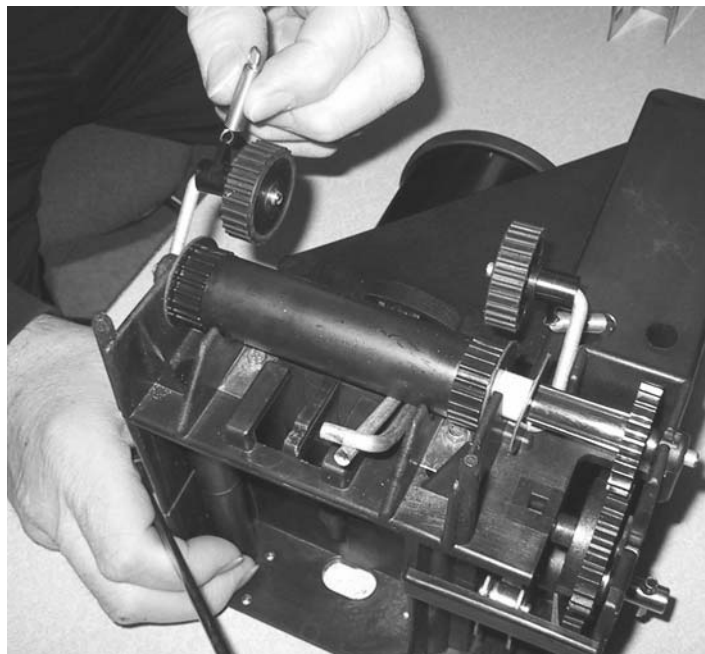

Figure 5
7. Remove the Idler Roller Assembly Springs from the bosses as in Figure 5.